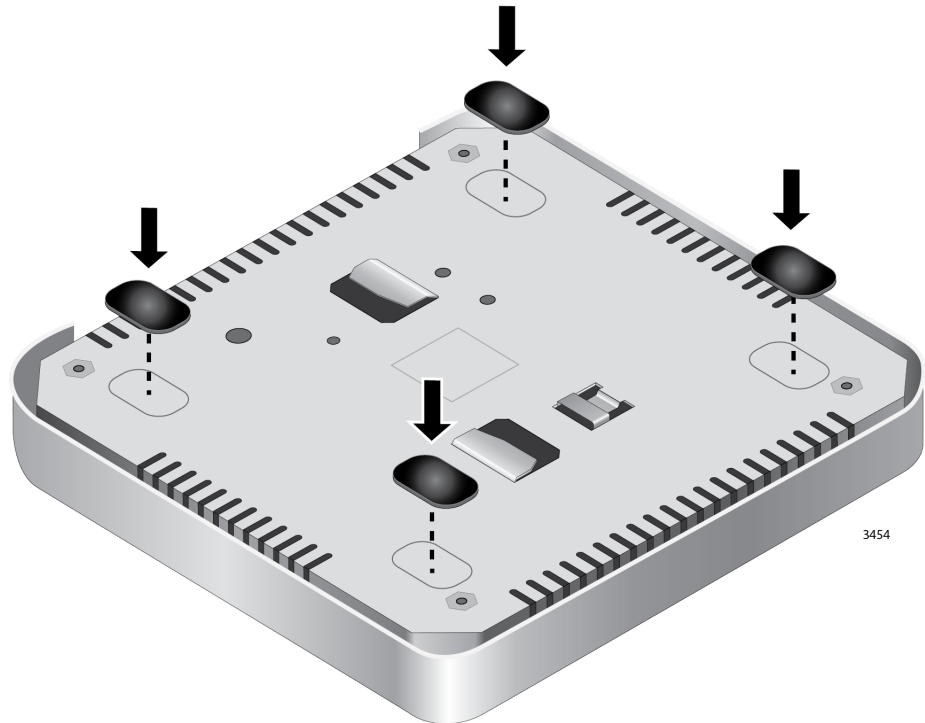

Figure 3. Installing the Rubber Feet
2. Install the rubber feet that come with the wireless access point by adhering the feet to the bottom panel. See Figure 3.